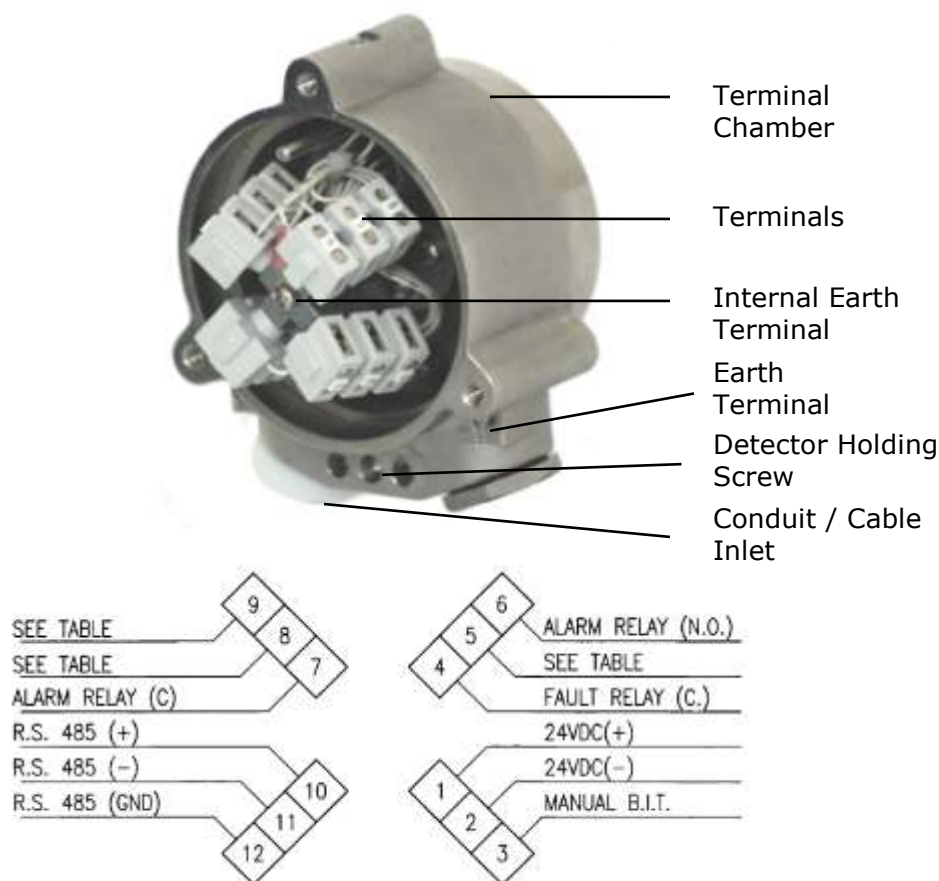

Figure 7: Detector with Cover Removed
This section describes how to connect the electric cabling to the detector (Figure 7).
- 5 Connect the wires to the required terminals on the Terminal Board according to the wiring diagram (Figure 7) and Table 16.
- 8 Check the wires for secure mechanical connection and press them neatly against the terminal to prevent them from interfering while closing the back cover (Figure 7).